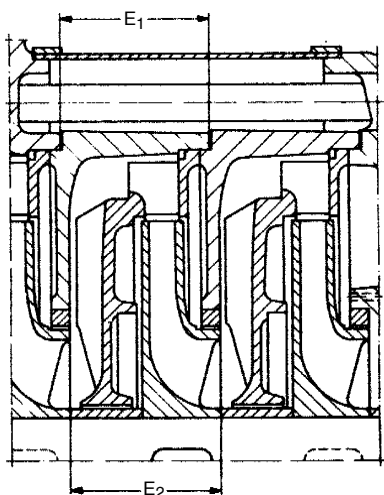

Fig. 48 Measuring the stages.
Before reassembly of ring section pumps, the axial face-to-face length 'E' of each stage casing (108) and of the corresponding impeller (230) with stage sleeve (521) must be measured. Any discrepancy in lengths must be compensated by machining the stage sleeve (521) only, and the end result must be $E_1 = E_2$ taking the thickness of flat gasket (400.2) into account. (see Fig. 48)